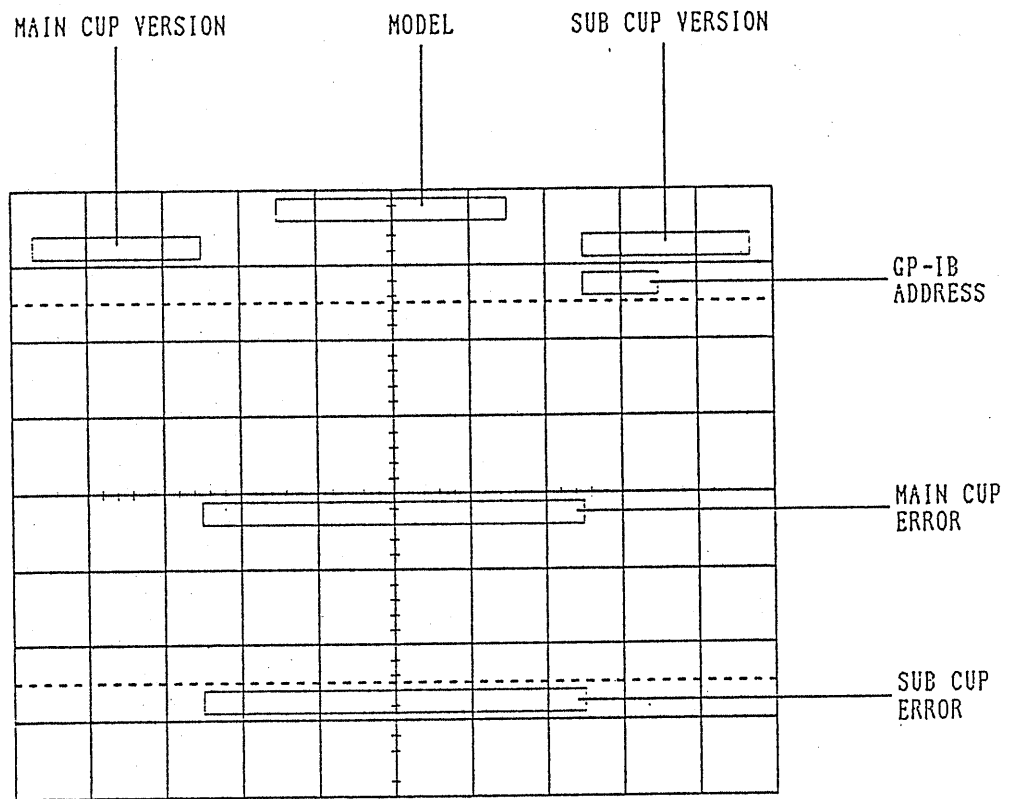

Figure 7.1 Diagnostic Messages Displayed on CRT
Other memory units than the above can be checked by pressing the READOUT control (33) while keeping the 2ND FUNCTION KEY (43) pressed. For COM7200, COM7100 and COM7060, the INTEN control (2) acts as a second function key as in the case of initial mode setting. In this case, messages as shown in Figure 7.1 are displayed on the CRT for about 3 seconds.